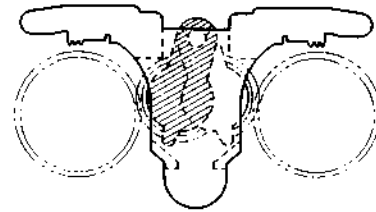

Fig. 5-6
- The slide brake at top position (Refer to Fig. 5-6)